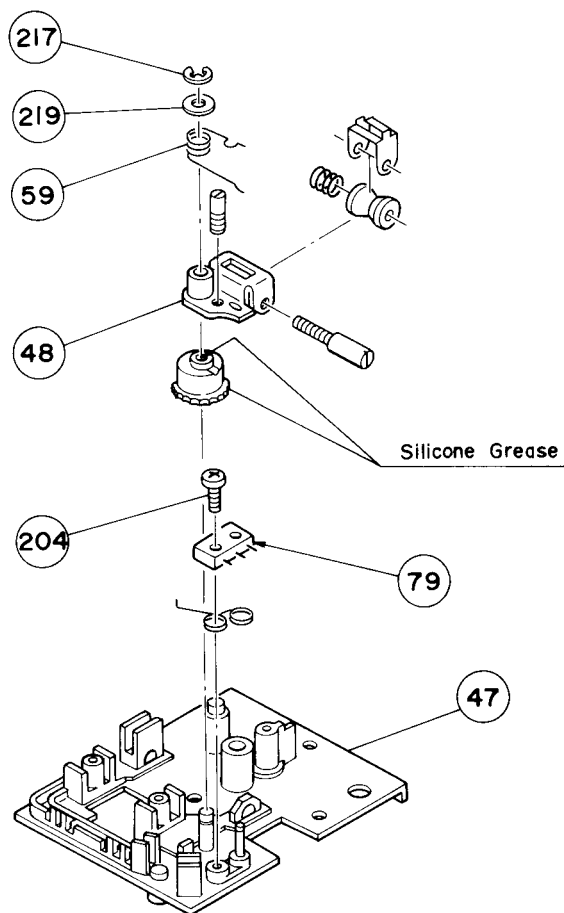

Figure 11
- (1) Remove the E type Washer " 217 " 2φ on Plate Assembly " 47 ".
- (2) Remove the Washer " 219 " and Spring " 59 ".
- (3) Remove the Lift Angle Assembly " 48 ".
- (4) Remove one screw " 204 " as shown in Figure 11.